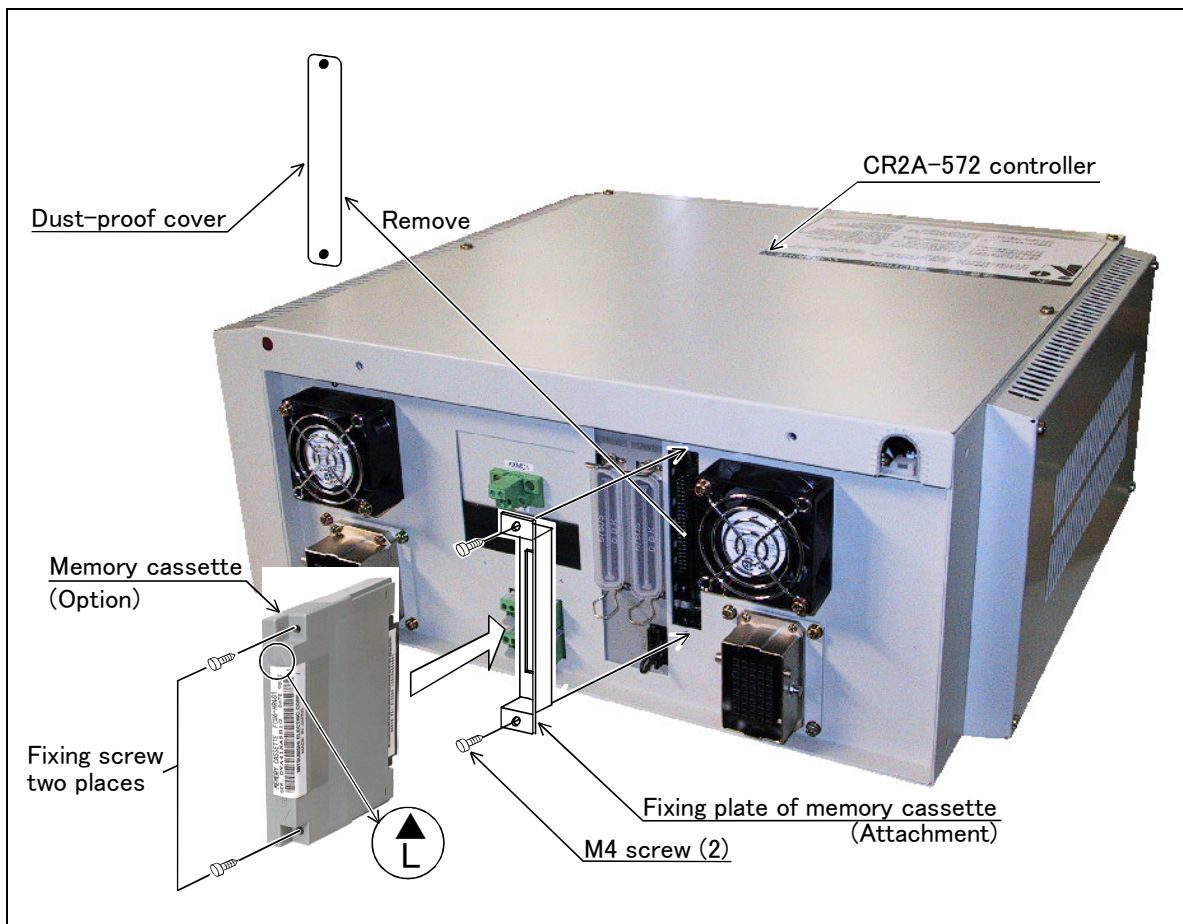

Fig.3-35 : Installation method of extension memory cassette
- As shown in Fig. 3-35, insert the memory cassette all the way to the back with the "▲" facing up.